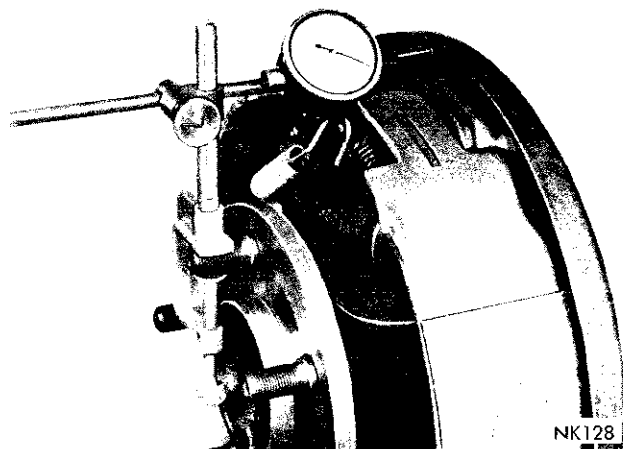

Fig. 14—Measuring Driving Axle Shaft End Play
(5) Using a dial indicator mounted on the brake support (Fig. 14) tighten the adjuster until both wheel bearings are seated and there is zero end play in the axle shafts. Back off the adjuster approximately four notches to establish a shaft end play of .013" to .023".
(6) Hit the end of the left shaft with a non-metallic mallet to move the right wheel bearing cup against the adjuster, and rotate the shaft so that a true end play reading is indicated.
(7) Remove one retainer plate nut. Install the adjuster lock. If the tab on the lock does not mate with a notch on the adjuster, turn adjuster until it does. Install the nut 30 to 35 foot-pounds torque.
(8) Re-test the shaft end play. If it is not between .013" to .023", then repeat the adjustment procedure.
(9) Remove the dial indicator and install the brake drum, drum retaining clips and the wheel.